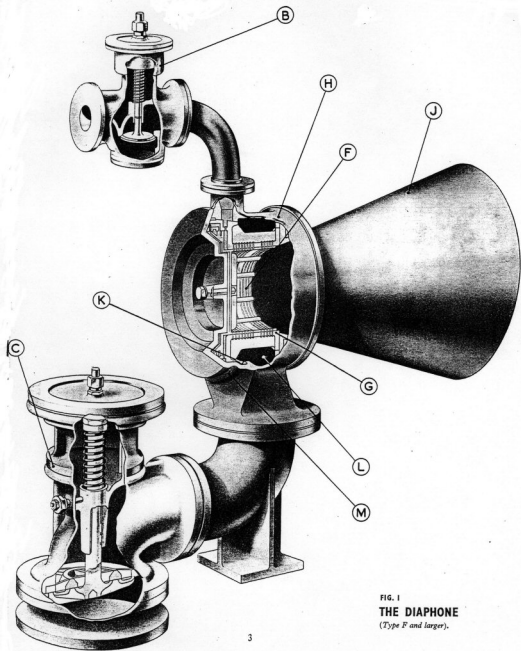

FIG. 1
The Diaphone instrument itself (see Fig. 1) consists of Piston (F), Cylinder (G), and outer casing (H). In addition there is a resonator (J), the function of which is to reinforce the note produced by the instrument. (See page 5).